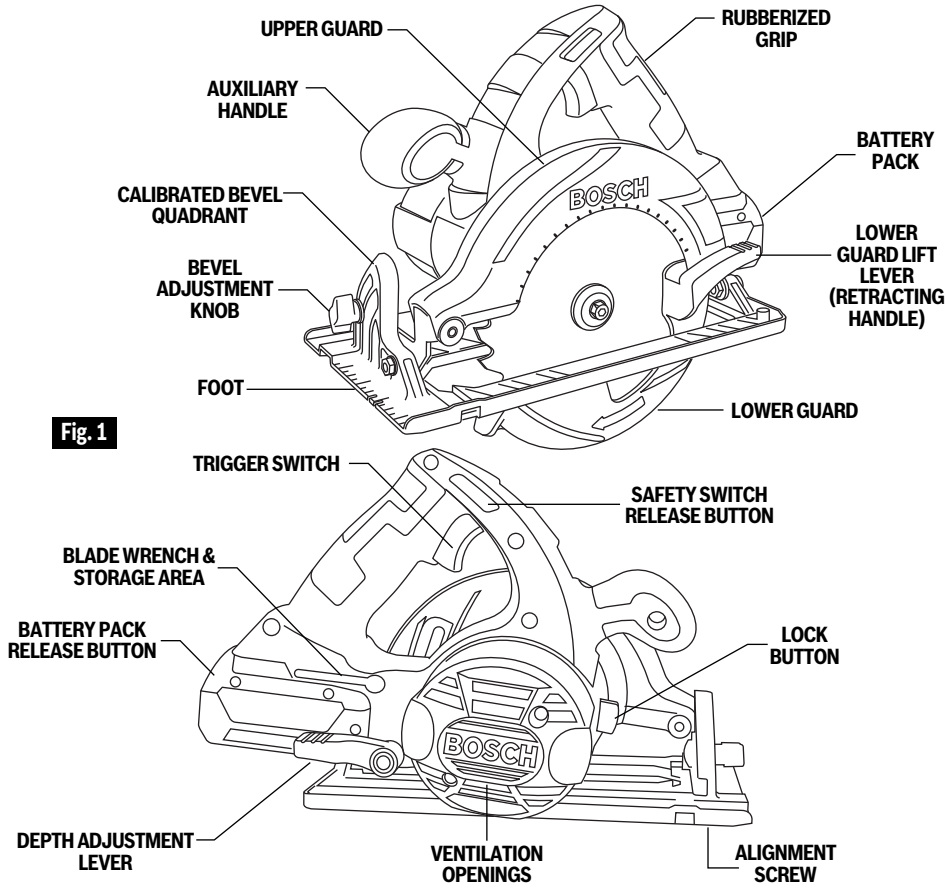

Fig. 1
Slide charged battery pack into the housing until the battery pack locks into position (Fig. 1).
Press the battery pack release button again and slide the battery pack completely out of tool housing (Fig. 1).
1. Turn BLADE STUD with wrench provided clockwise and remove BLADE STUD and OUTER WASHER (Fig. 2). If the shaft moves while attempting to loosen the blade stud press the lock button (Fig. 1).